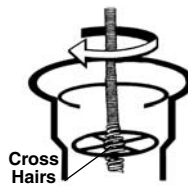

Figure 3
- For many drains, the cable can be threaded through the cross hairs in the drain (See Figure 3).